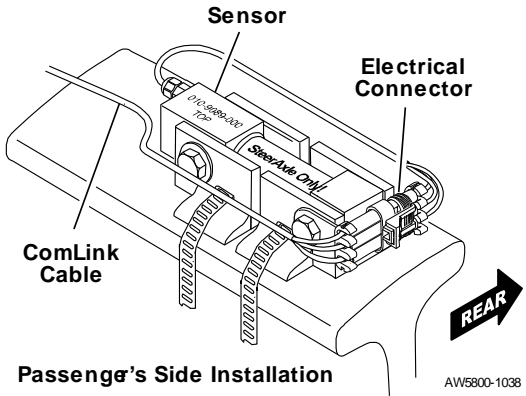

Figure 14. Placing the ComLink Cable for Passenger's Side Hookup
1. Facing towards the rear of the vehicle, route the cable from the connector assembly so it runs to the left of the steer axle sensor assembly. See Figure 14.